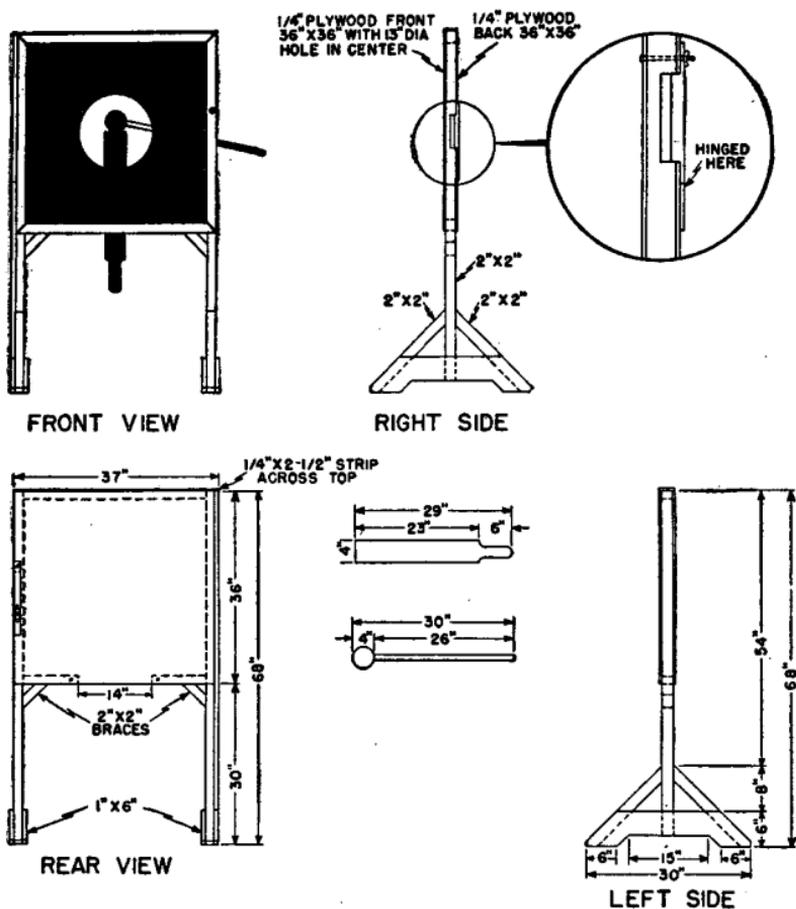

Figure 145. A model sight picture device.
a. Figures 145 to 150 show some of the more important training aids that easily can be constructed and profitably used in teaching rifle marksmanship.